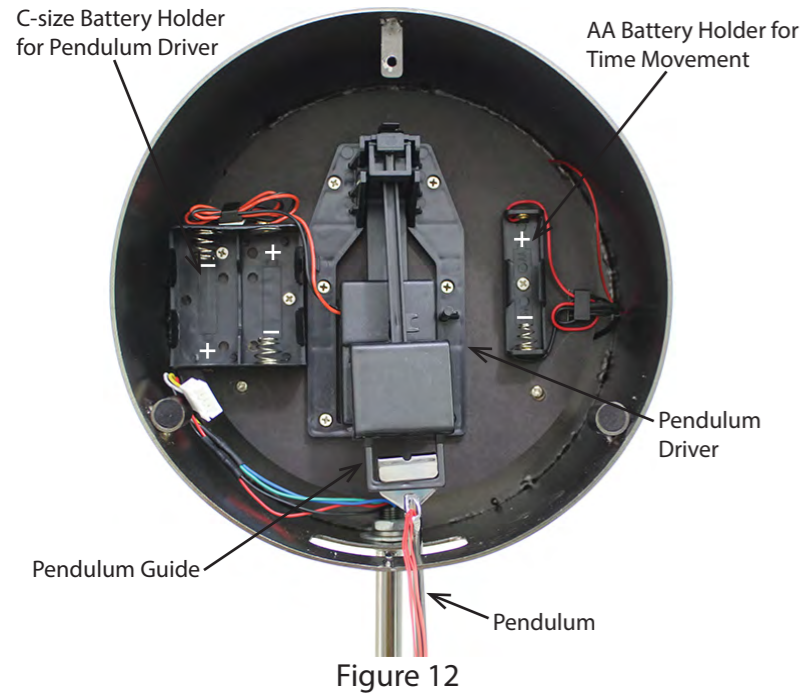

Figure 12
12. Hang the pendulum (F) on the pendulum driver guide (Figure 12).
18. Install one "AA" size alkaline battery according to the +/- symbols in the time only movement battery holder (Figure 12).
19. Install two "C" size alkaline batteries according to the +/- symbols in the pendulum driver battery holder (Figure 12).
21. Give the pendulum (F) a gentle start-up swing.